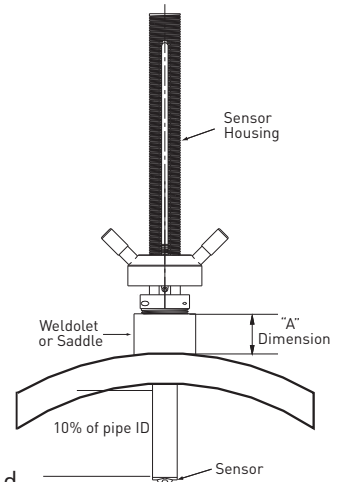

Fig. 1
- For retrofit installations, the stack height, or "A" dimension (see Fig. 1), is the overall height from the top of the pipe to the highest point of the stack.
- For new installations, Signet recommends a weldolet (threadolet) and an adapter to accommodate the 1 1/4 in. (or 1 1/2 in. for 2552-3) sensor process threads. The stack height, or "A" dimension (see Fig. 1), is the overall height from the top of the pipe to the highest point of the stack before the sensor is connected